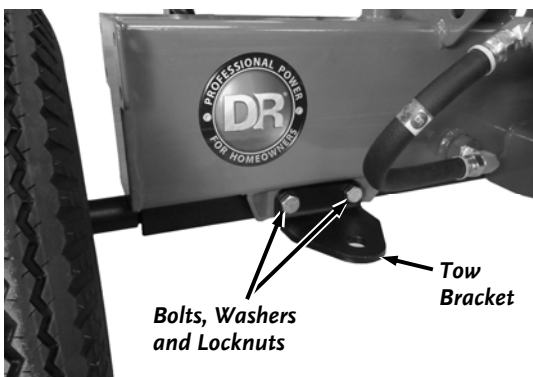

Figure 19
30. Remove the two left side Bolts, Flat Washers and Locknuts from the Tank and Axle using two 3/4" Wrenches. Position the Tow Bracket and secure with the hardware you just removed (**Figure 19**).